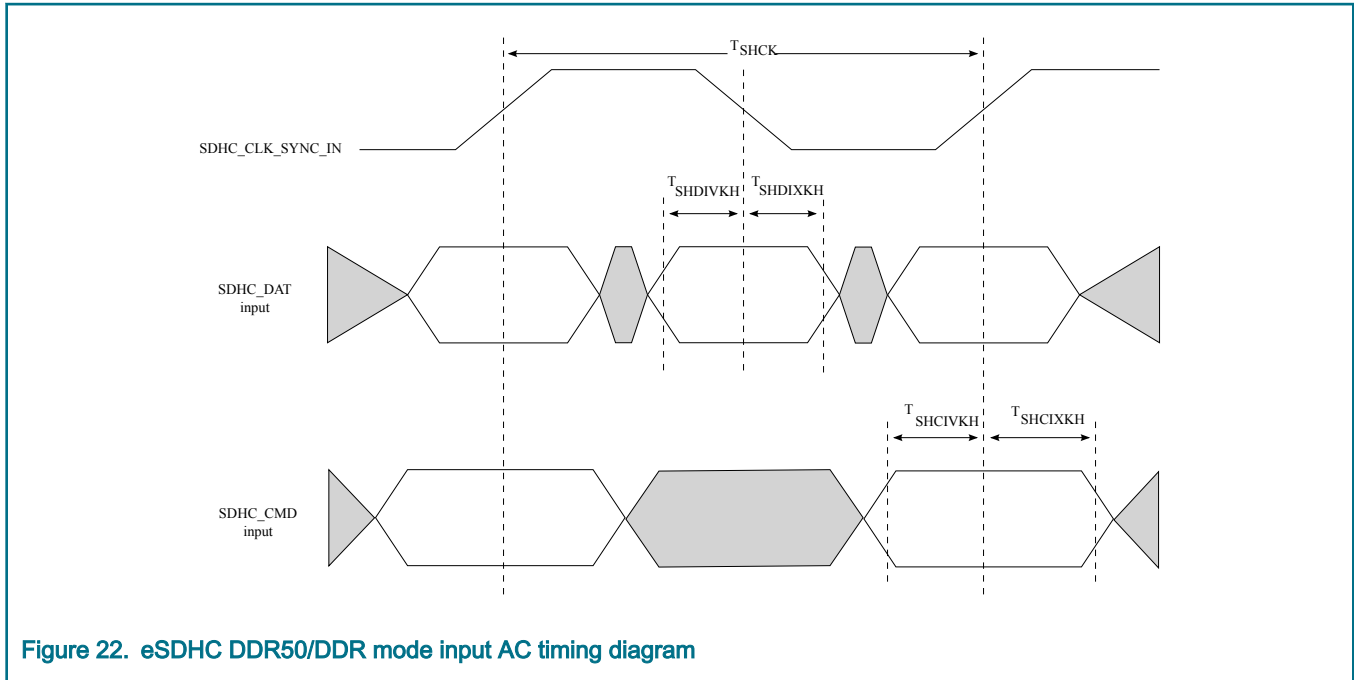
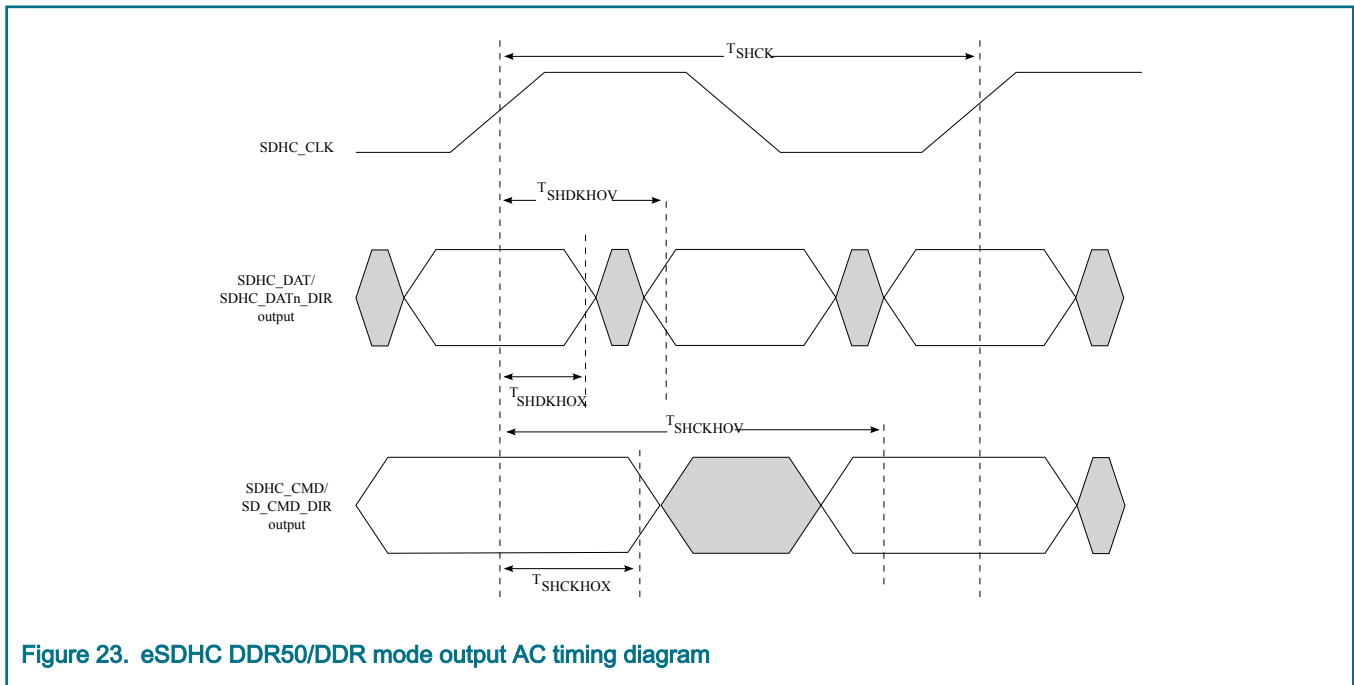

Figure 22. eSDHC DDR50/DDR mode input AC timing diagram
Figure 23. eSDHC DDR50/DDR mode output AC timing diagram
3. The symbols used for timing specifications herein follow the pattern of t(first two letters of functional block)(signal)(state) (reference)(state) for inputs and t(first two letters of functional block)(reference)(state)(signal)(state) for outputs. For example, tSHCKHOX symbolizes eSDHC highspeed mode device timing (SH) clock reference (K) going to the high (H) state, with respect to the output (O) reaching the invalid state (X) or output hold time. Note that in general, the clock reference symbol is based on five letters representing the clock of a particular functional. For rise and fall times, the latter convention is used with the appropriate letter: R (rise) or F (fall).
4. See Figure 22.
5. See Figure 23.
<p>1. CL = CBUS + CHOST + CCARD ≤ 20 pF for MMC, ≤ 25pF for Input Data of DDR50, ≤ 30pF for Input CMD of DDR50.</p> <p>2. The symbols used for timing specifications herein follow the pattern of t(first two letters of functional block)(signal)(state) (reference)(state) for inputs and t(first two letters of functional block)(reference)(state)(signal)(state) for outputs. For example, tSHKHGX symbolizes eSDHC highspeed mode device timing (SH) clock reference (K) going to the high (H) state, with respect to the output (O) reaching the invalid state (X) or output hold time. Note that in general, the clock reference symbol is based on five letters representing the clock of a particular functional. For rise and fall times, the latter convention is used with the appropriate letter: R (rise) or F (fall).</p> <p>3. See <a href="#">Figure 22</a>.</p> <p>4. See <a href="#">Figure 23</a>.</p> <p>5. Board skew: -0.2 to 0.2 ns</p>